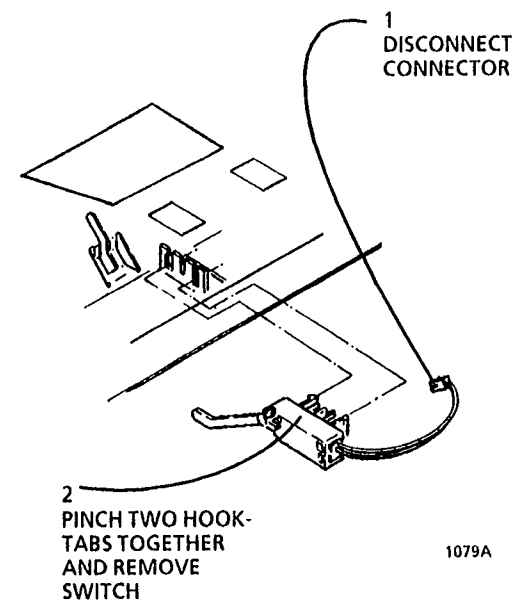

Figure 2. Removing the Exit Switch (S4)
4. (Figure 2): Remove the exit switch.